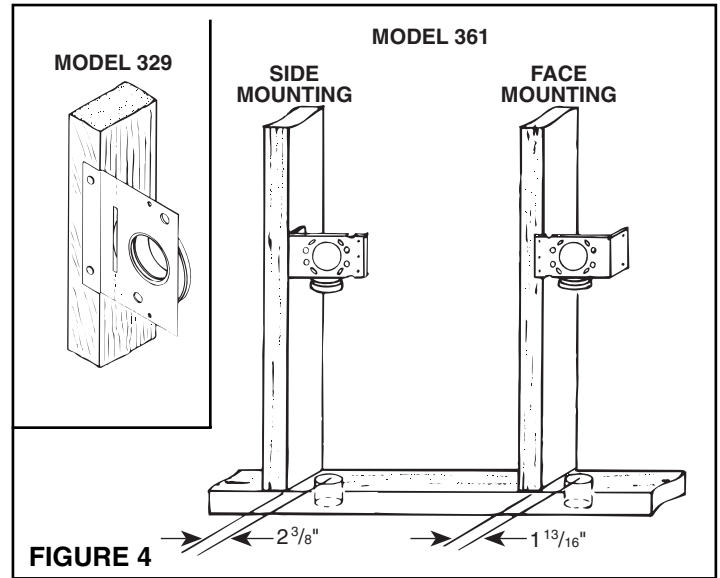

FIGURE 4
3. **Refer to Figure 4.** Nail bracket to side of stud so that front edge of bracket is flush to front of stud. (The bracket may also be nailed to the front edge of the stud. For front stud mounting, use locating tabs on bracket for proper alignment.)